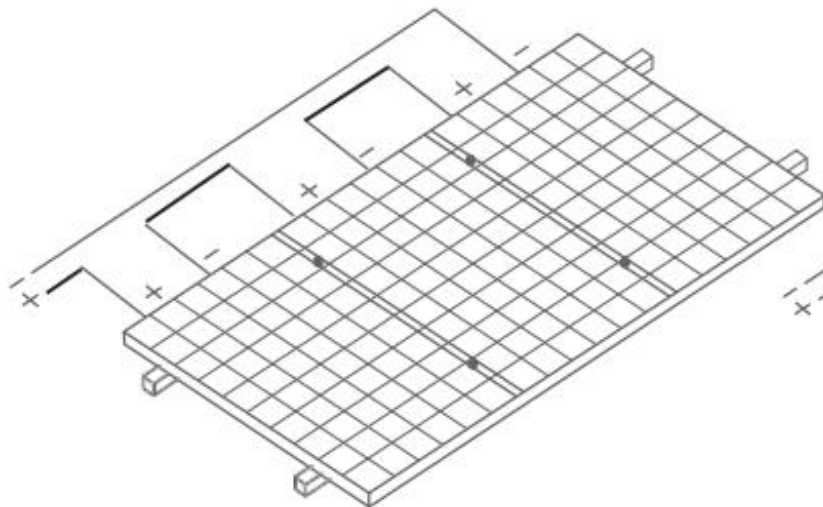

Figure 4 Connection in Series
- It is not allowed to use the Modules in different models in the same solar photovoltaic system. When the Modules are connected in series, the voltage of every string shall not be higher than the maximum voltage of the system (as shown in Figure 4). To ensure that this is the case, the open circuit voltage of the array string needs to be calculated at the lowest expected ambient temperature for the location. Reference equation of the maximum number of the Modules in serial connection: